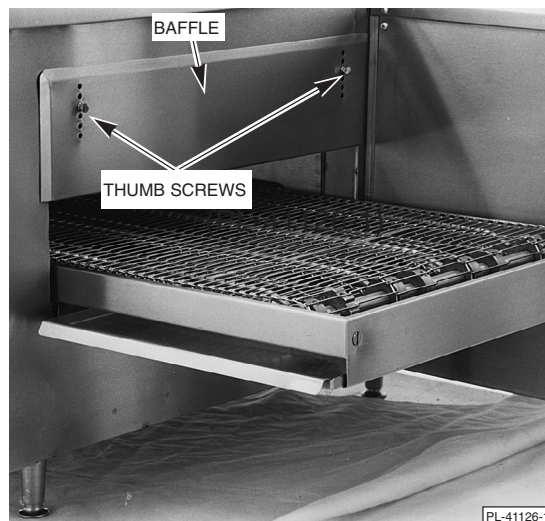

Fig. 6
A baffle (Fig. 6) is located on each end of the oven.
1. Loosen the two thumb screws (Fig. 6) - use insulated gloves.